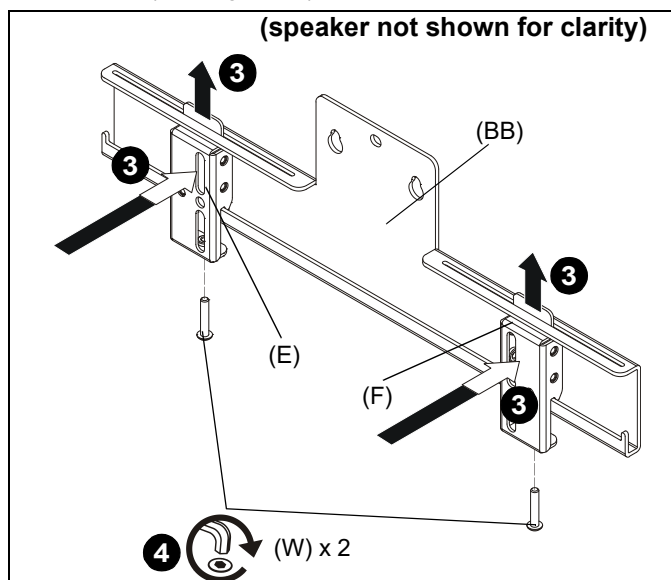

Figure 14
- Install two speaker interfaces (E and F) to speaker bracket (BB) by sliding upper flanges of interfaces into long slots on speaker bracket and then pushing interfaces into position. (See Figure 14)
- Use two #10-24 x 1 1/8" button head cap screws (W) to secure interfaces to speaker bracket at desired speaker position. (See Figure 14)